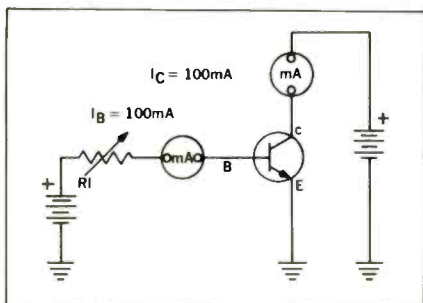

Fig. 1—Simplified test setup for measuring DC beta.
■ The term "beta" describes the forward current gain of a transistor connected in a common emitter circuit, as in Fig. 1. Beta is the ratio of current in the collector (output) circuit to current in the base (input) circuit ($\text{Beta} = I_c/I_B$). The larger I_c is in relation to I_B , the greater the value of beta.
Assume that R1 in Fig. 1 is adjusted (decreased) until a current of 1 ampere (1000 mA) is produced in the collector circuit. If the current in the base circuit is 100 mA at this setting of R1, the beta of the transistor is 1000 mA divided by 100 mA, or 10.
Actually, there are two "types" of beta. The one we have measured using the setup in Fig. 1 is called
Small-signal beta, H_{fe} , is measured by superimposing a small AC signal on the DC bias current in Fig. 1, and then measuring only the resulting AC component in the collector (output) circuit of the transistor. In the absence of signal, a transistor has only a DC output current which is produced by the forward input bias needed to "turn on" the transistor. (A transistor is cut off without forward bias.) When a varying (AC) signal is applied to the base (input) circuit, it "swings" the collector current up and down around the DC operating point.